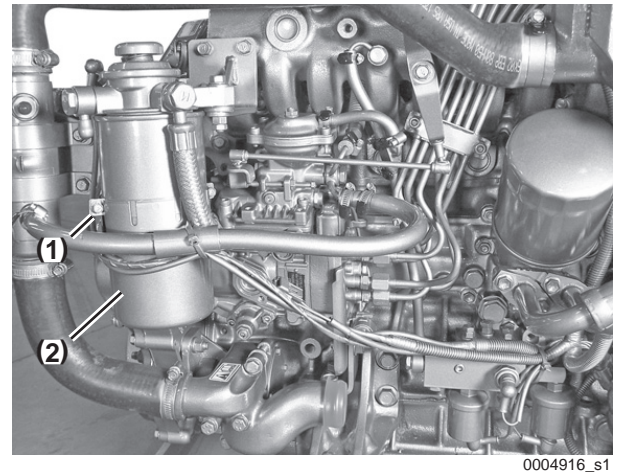

Figure 4-5
2. Remove the two mounting screws (Figure 4-5, (1)) and remove the housing (Figure 4-5, (2)).